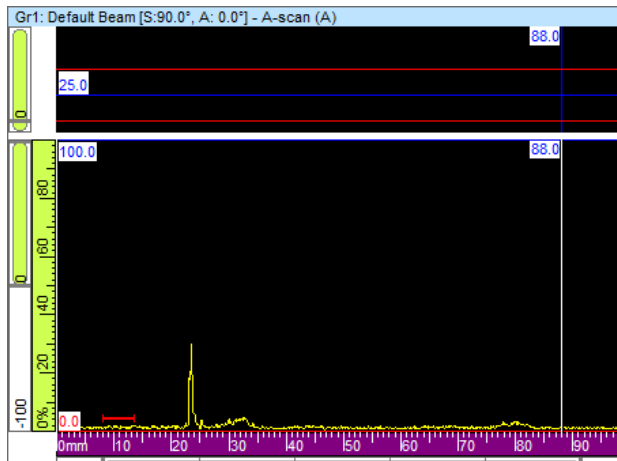

Figure 4-29 The A-scan before adding the first TCG point.
4. Position the probe to get well-defined echoes on the A-scan (see Figure 4-29 on page 256).